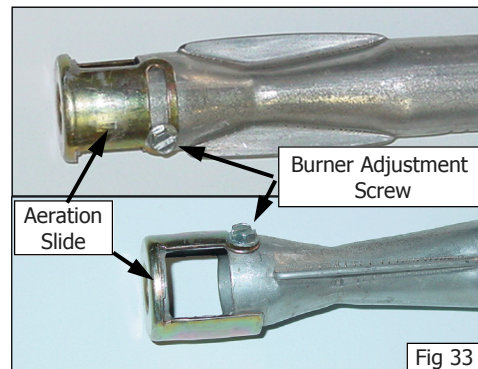

Fig 33
- iii. To adjust the aeration gap, slacken the clamp screw and rotate the aeration slide to the required position and tighten off the clamp screw. (Refer to Fig 33).